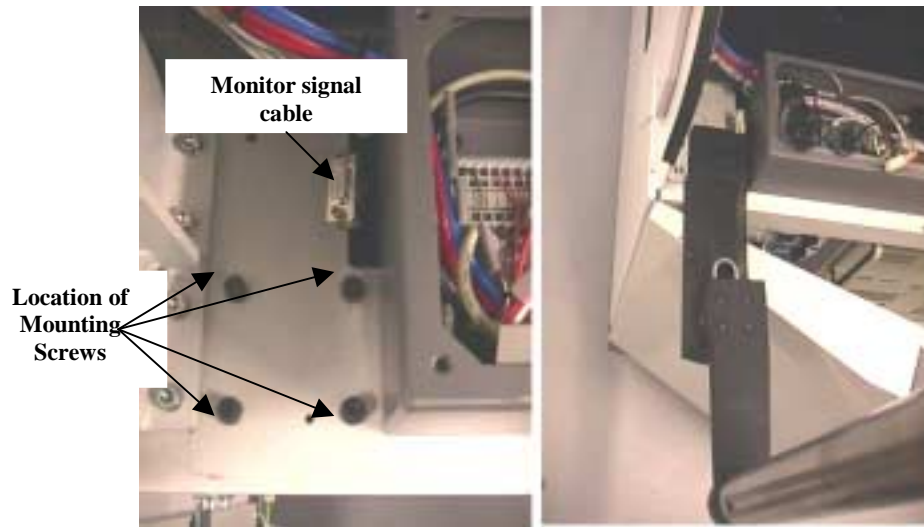

Figure 2.16 Remove the Mounting Screws
1. Remove the four mounting screws. See fig 2.16.
2. The **Anthro Arm** is then placed on the machine and the holes in the arm mounting plate lined up with the holes in the base frame. See fig 2.16.